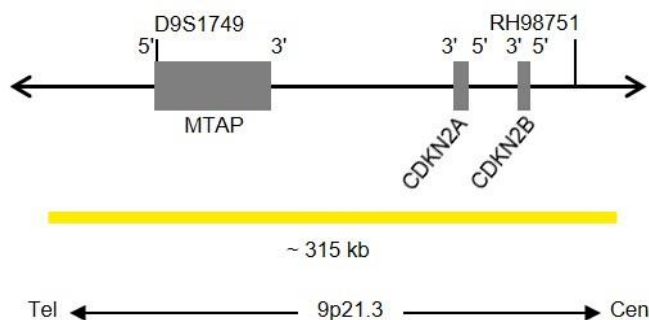

Fig. 1: SPEC CDKN2A Probe map (not to scale)
- ZyGold (excitation at 532 nm and emission at 553 nm) labeled polynucleotides (5.5 ng/μl), which target sequences mapping in 9p21.3* (chr9:21,742,629-22,056,853) harboring the CDKN2A gene region (see Fig. 1).